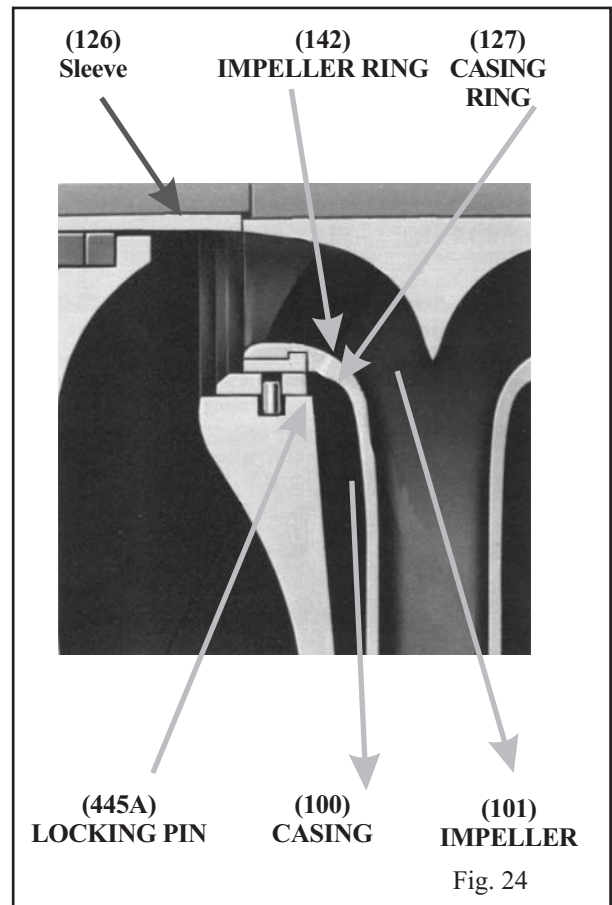

Fig. 24
NOTE: For impellers with replaceable rings, heat each new ring (142) and slide it onto the impeller. Hold rings against the impeller shoulder until they cool. (See Fig. 24)
3. Place both shaft sleeve keys (401) on shaft (122).
4. Slide sleeve gaskets (428) onto shaft and against hubs of impeller.
5. Slide sleeves (126) onto shaft.